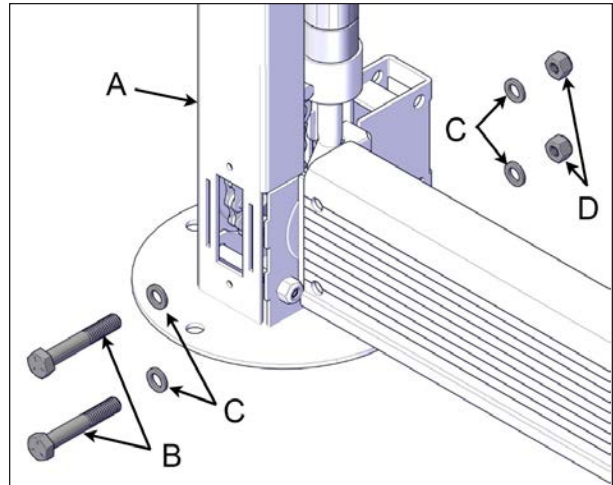

FIGURE 53: LONG U-FRAME INSTALLATION
10. Install the long aluminum U-frame over the left drive shaft and make sure it lines up with motor-side and non-motor-side jack assemblies. Fasten in place using two hexagonal 5/16"-18 x 2" screws, two 5/16"-18 nylon-insert lock nuts and four 5/16" plastic washers (2 by side), with the 1/2" (13 mm) socket wrench and spanner as tools see Figure 53.
The drive shaft may fall off during operation, and reassembling can be done faster when the bolts have not been fully tightened see Figure 53.